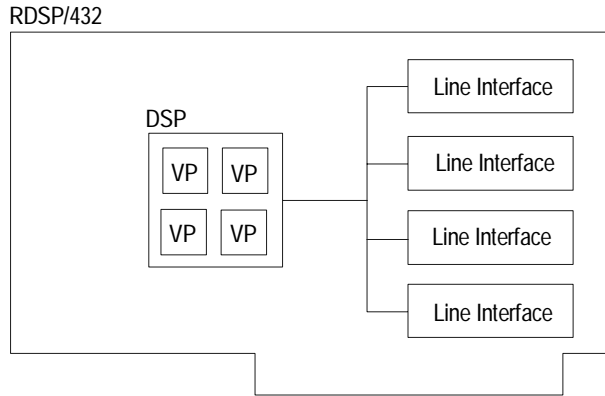

Figure 2. Hardware and Logical Resources on an RDSP/432 Board
Voice processing boards provide voice resources on the digital signal processors (DSP) and loop start (LS) line resources on the line interfaces (except the RDSP 24000 and Vantage VRS series boards that provide only voice resources). Further, each DSP is logically divided into four VP resources. Figure 2 shows this division of the hardware and logical resources on a typical board